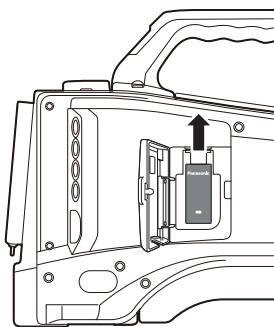

Fig. 3
- 3** Securely attach the wireless module to the <USB2.0> terminal (sub-host). (Fig. 3)